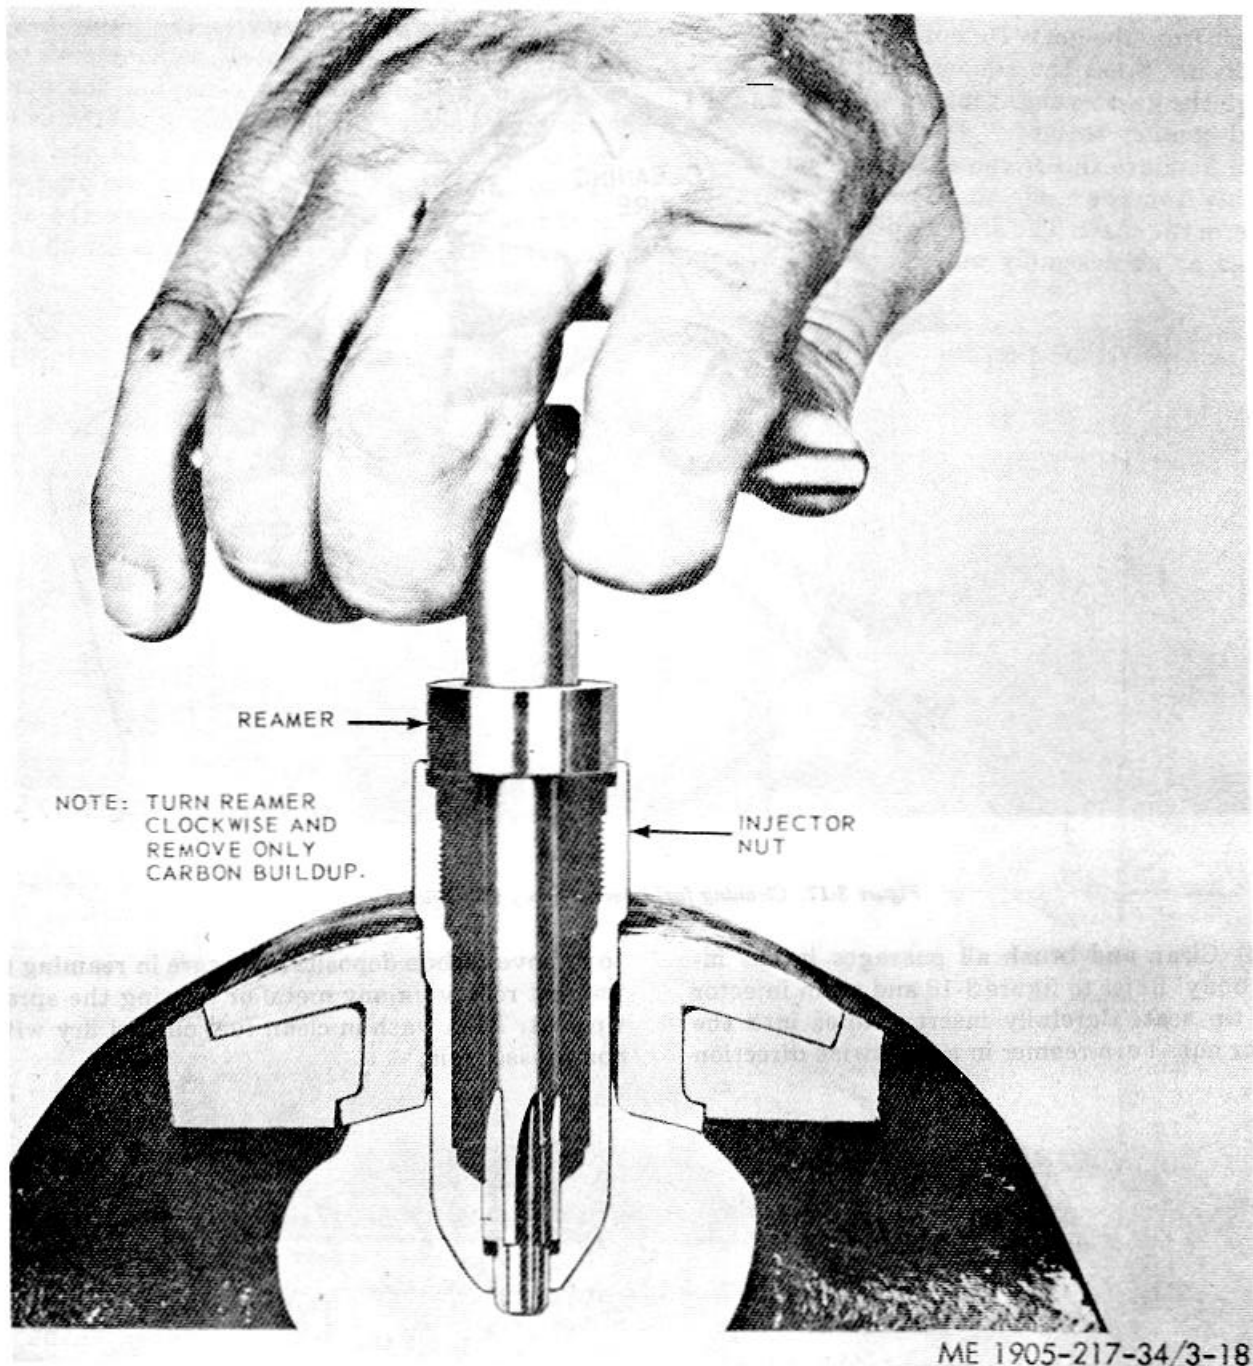

Figure 3-18. Cleaning fuel injector nut spray tip seat.
(4) Clean and brush all passages in the injector body. Refer to figure 3-18 and ream injector spray tip seat. Carefully insert reamer into the injector nut. Turn reamer in a clockwise direction to remove carbon deposits. Use care in reaming to prevent removing any metal or burring the spray tip seat. Then wash in clean fuel oil and dry with compressed air.